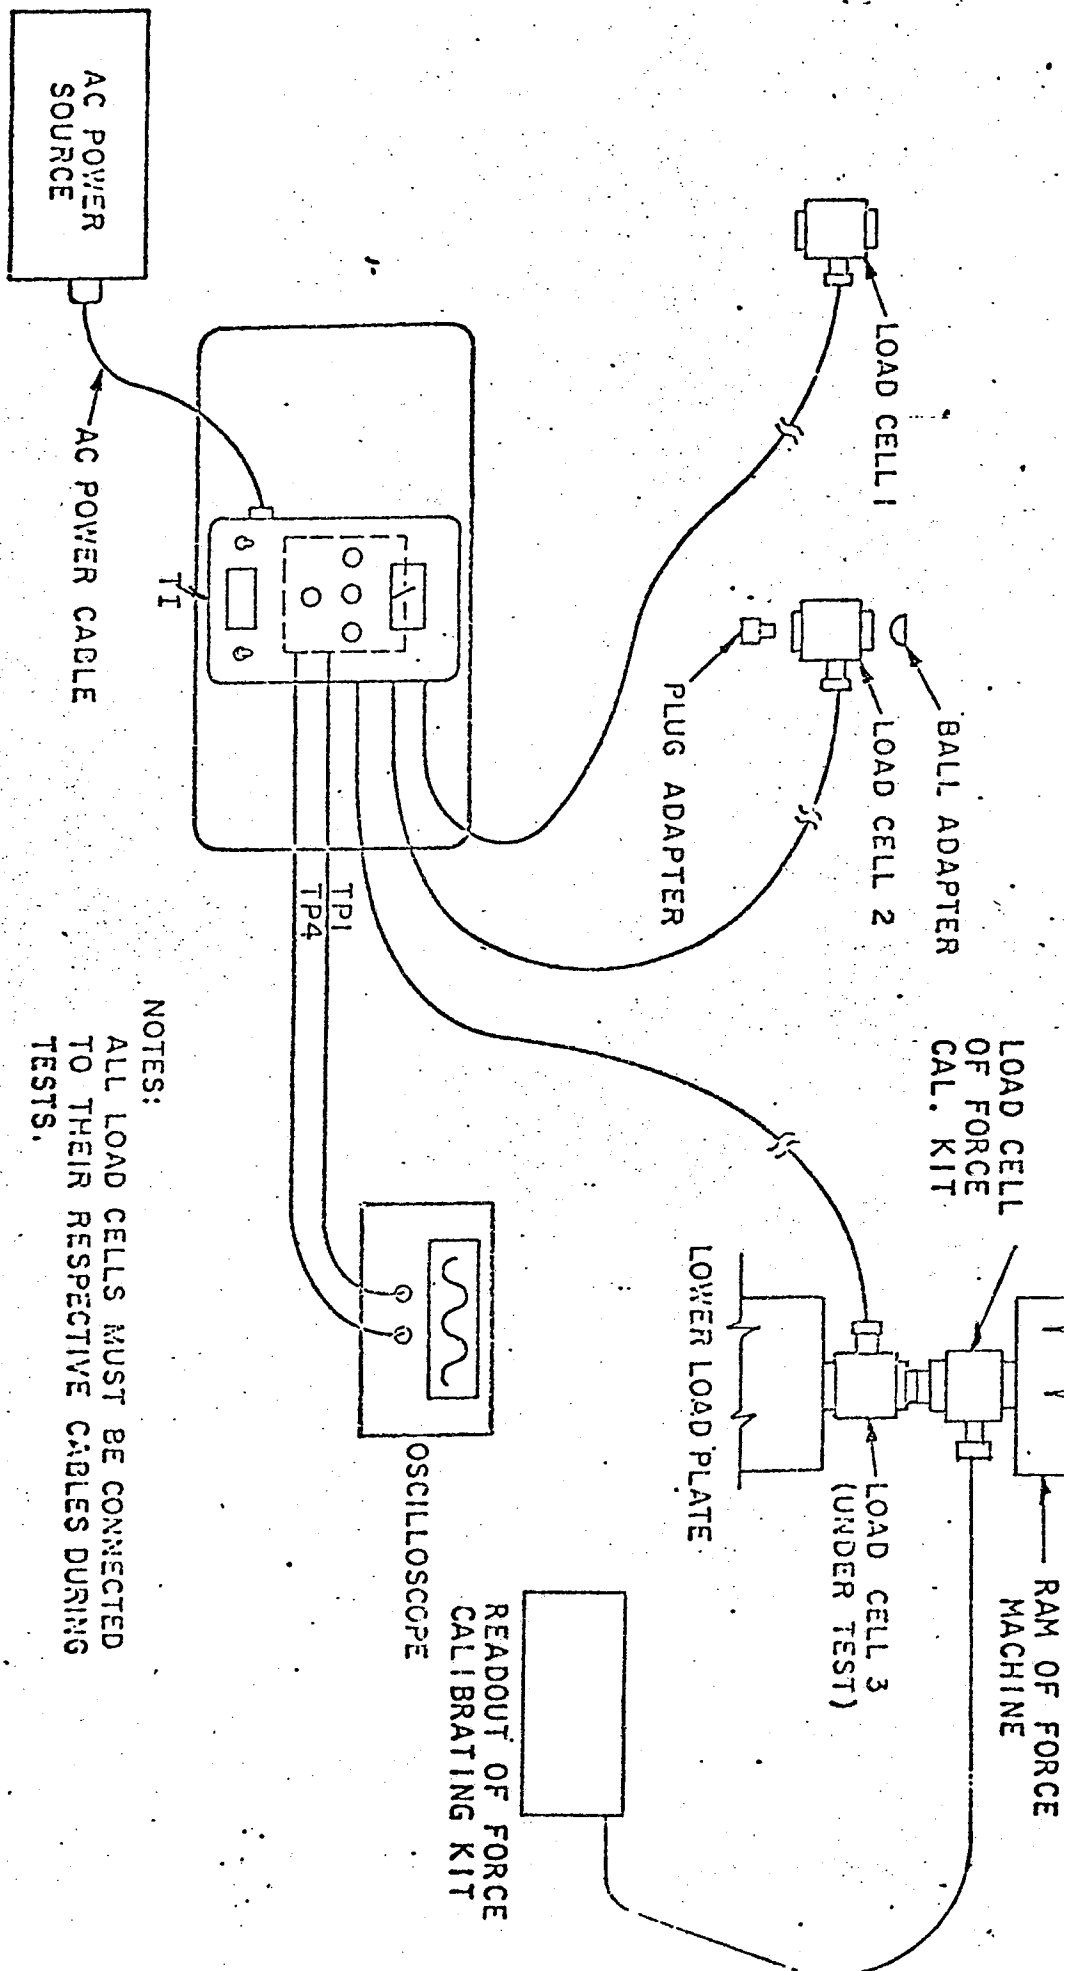

Figure 2. Load Test Setup
4.2.1.1 Connect equipment as shown in Figure 2, with load cells 1, 2, and 3, connected to their respective load cell cables. Connect the oscilloscope between TP1 and TP4 on the Ti circuit board.
4.2.2.1 Place the TI load cell number 1 in the force calibrator, using ball and plug adapter as shown in Figure 2. Adjust the force calibrator for a load of 50000 pounds. Set the TI CELL SELECTOR switch to the CELL 1 position.
4.2.4.1 Place the TI load cell number 2 in the force calibrator, using ball and plug adapters as shown in Figure 2. Set the TI CELL SELECTOR switch to the CELL 2 position.
4.2.5.1 Place the TI load cell number 3 in the force calibrator, using ball and plug adapters as shown in figure 2. Set the TI SELECTOR switch to the CELL 3 position.